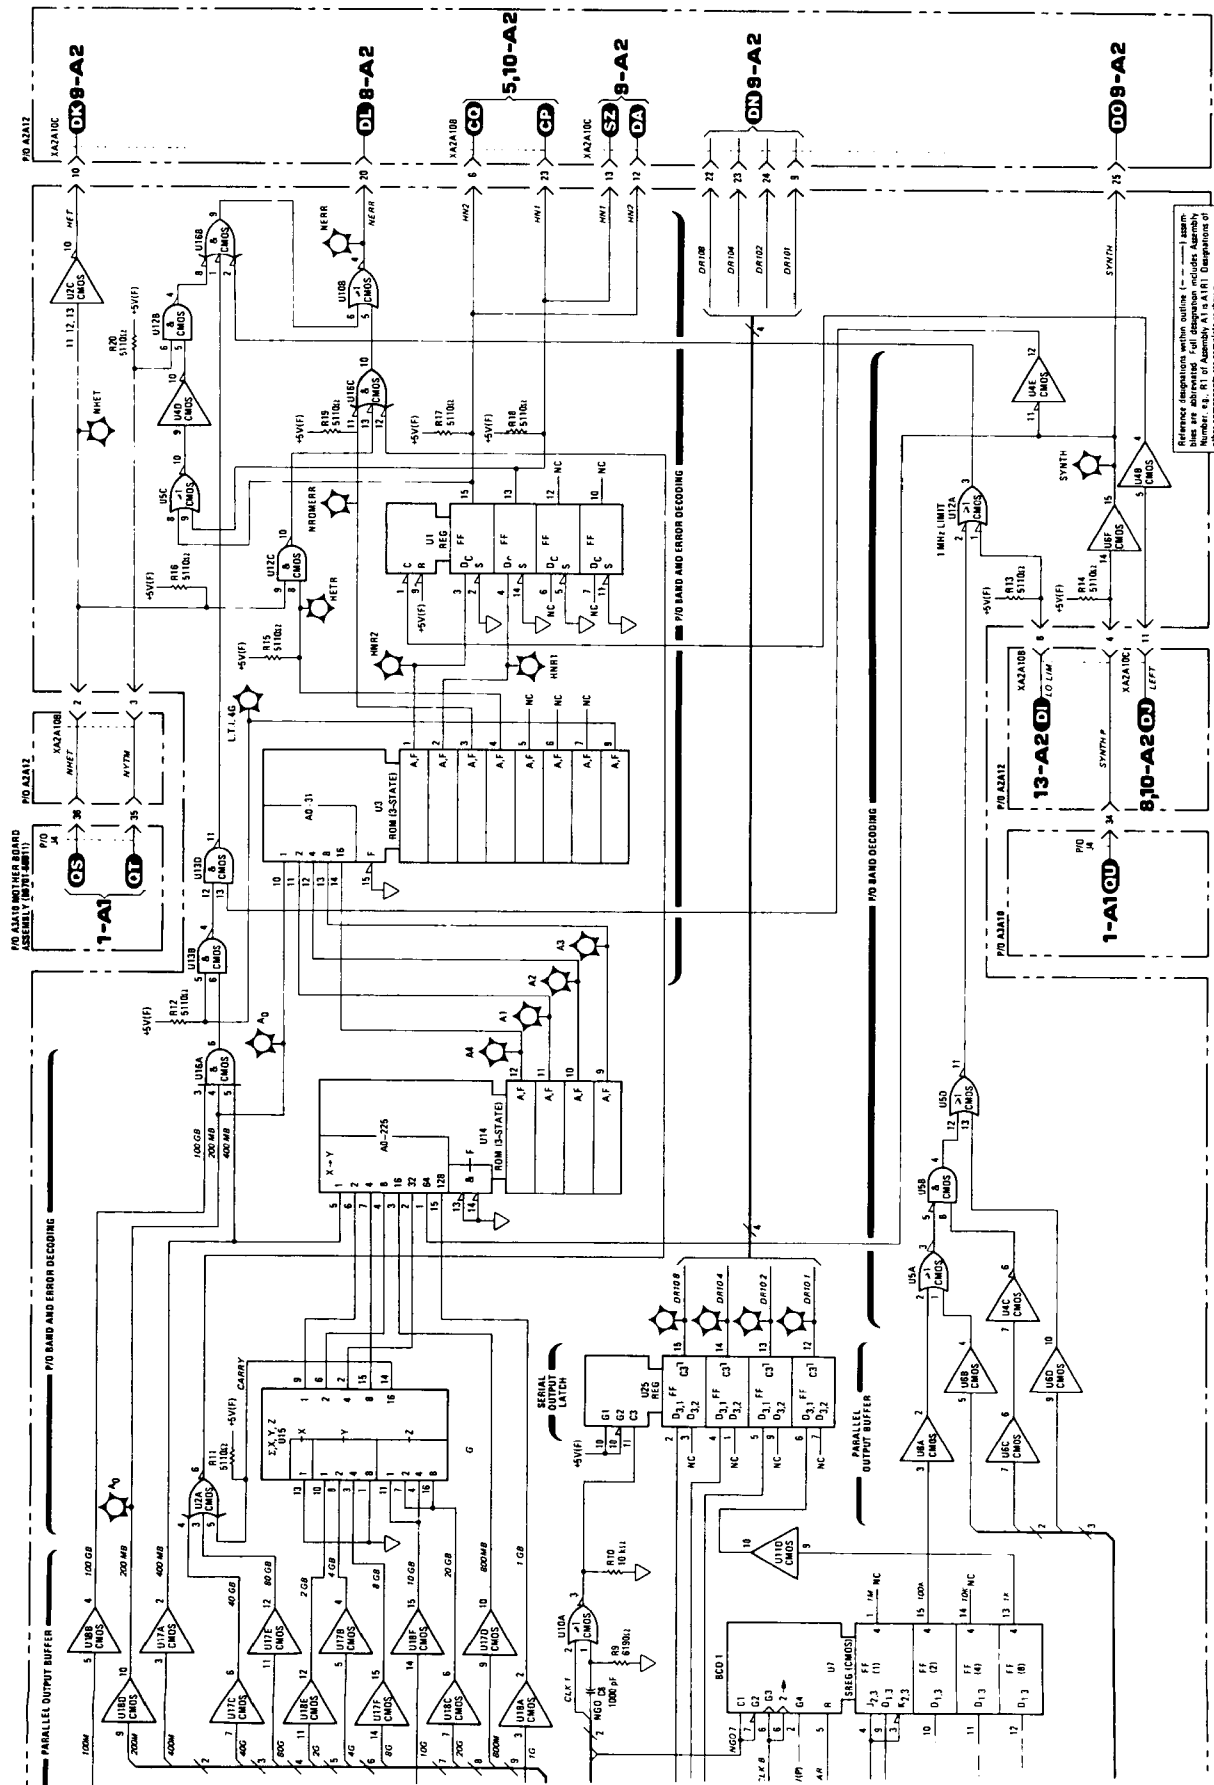

Figure 7-10. P/O Register 1 Assembly Schematic Diagram (P/O Change AW)
- Substitute Figure 7-10 for the appropriate part of the schematic.